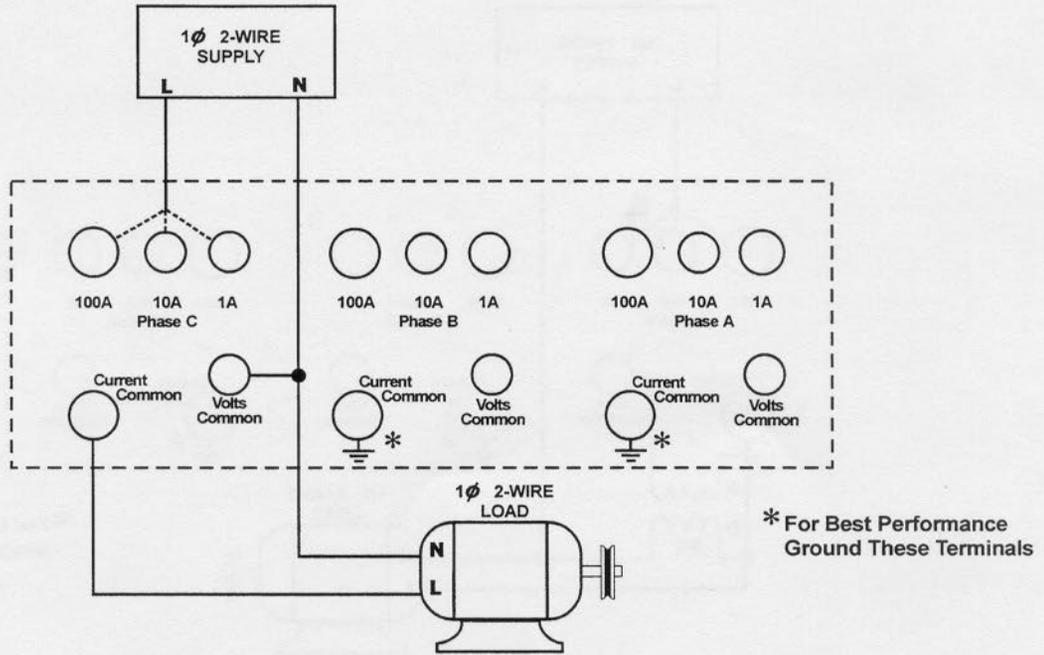

Figure 6-1. Single-Phase Two-Wire Load Power Connections
Connect the wattmeter as shown in Figure 6-1. **Caution!** Do not run the neutral current through the volts common terminal. Tap off the neutral wire to connect the volts common terminal.
- 1) Connect the 2300 as shown in Figures 6-1 to 6-8 as determined by your application. Make connections to the appropriate current shunt terminal for the expected range of current levels.